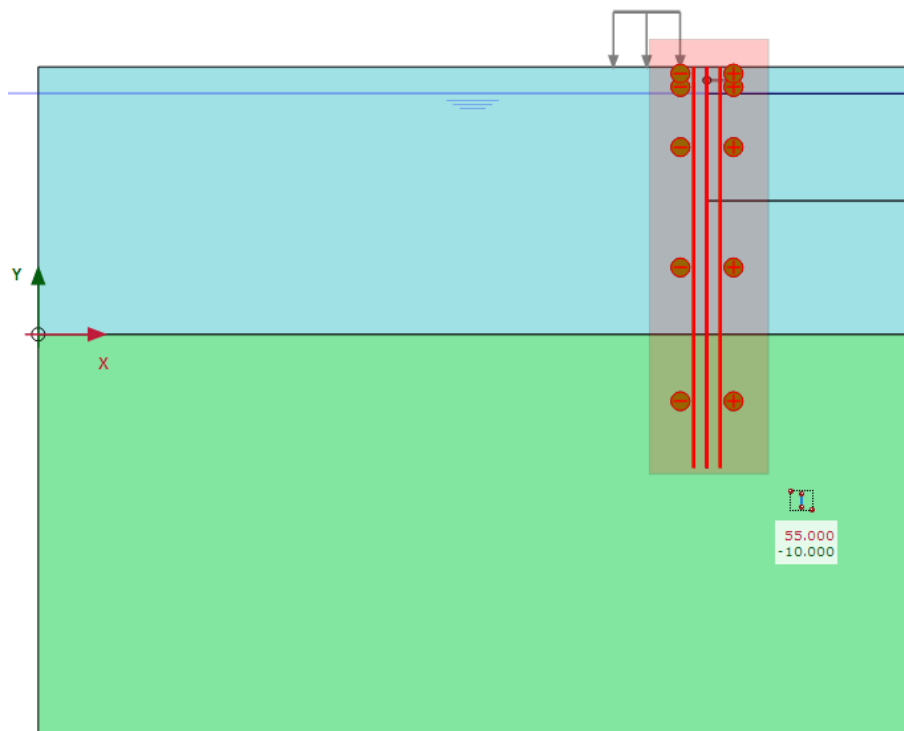

Figure 3-8: Selected multiple plate elements in the model
- 3 In the drawing area define a rectangle that includes all the plate elements as shown in Figure 3-8 \(p. 63\).